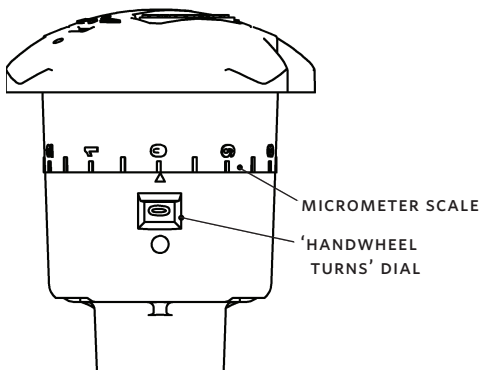

FIG. 9
- 2 **Handwheel turns dial:** This dial is printed on the outer surface of a gearing mechanism located inside the lower half of the handle assembly (FIG. 9). Each complete 360° revolution of the handwheel is visible through a display window and is scaled 0 - 5 to indicate the valve position in terms of the number of full turns. (FIG. 9)
- 3 **Micrometer scale:** This scale is marked 0 - 9 and is located on the upper half of the handle assembly. Each mark represents an act of a full, 360° turn of opening when lined up with an arrowhead symbol, located above the handwheel turns display window (FIG. 9)